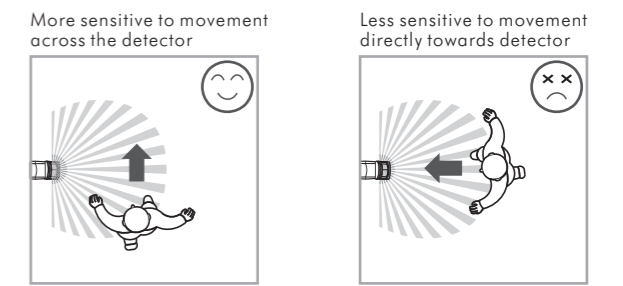

FIG.4
3.1.2.3 Pay attention to the walking direction in the test proceeding (See FIG.4).